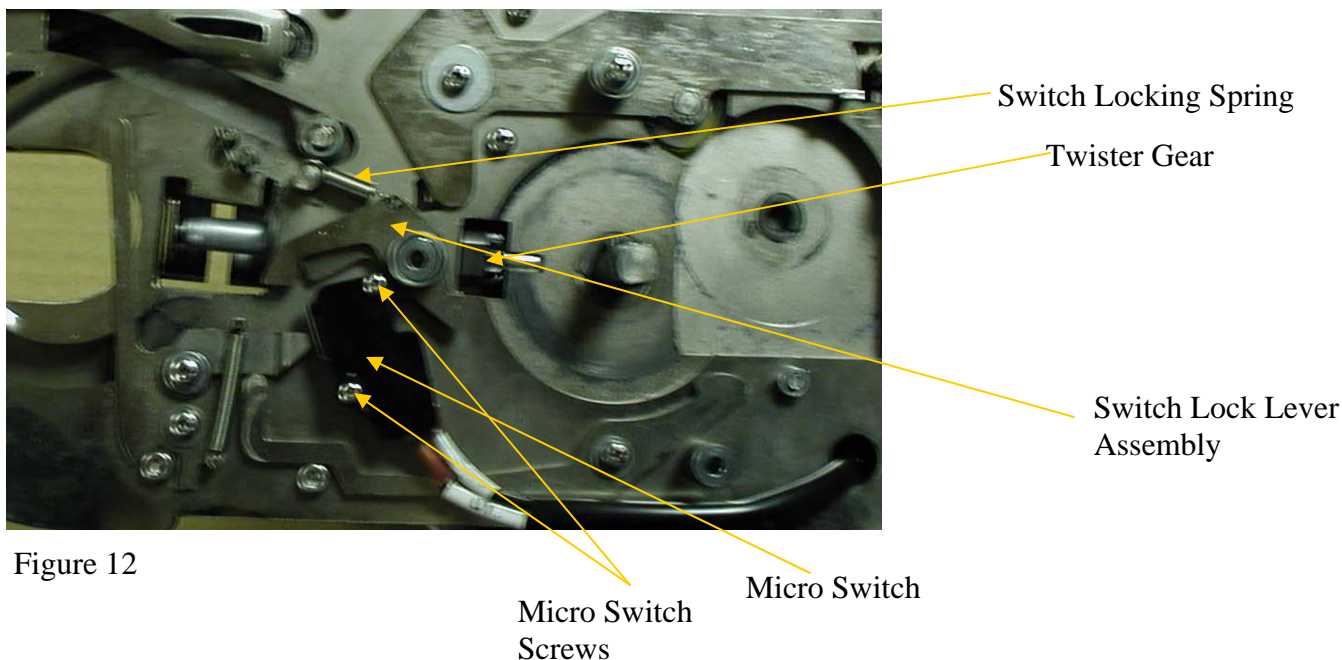

Figure 12
- 4) Locate the Switch Lock Lever Assembly. Unhook the Switch Locking Spring from the Spring Hanger and lift the assembly from the Upper Base. See Figure 12. **Suggestions:** Keep this assembly together in the same manner as it was removed from the machine. This will ensure the parts are in the proper orientation during re-assembly.